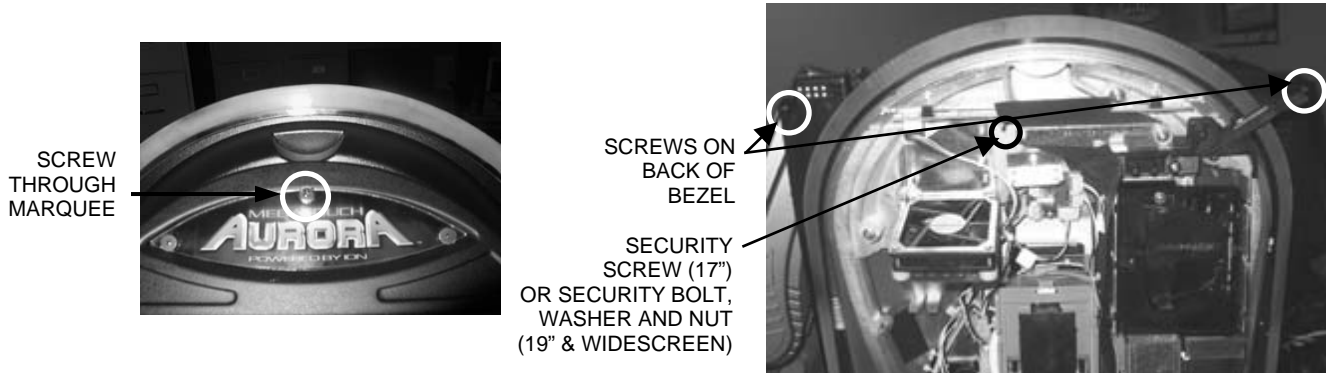

FIGURE 3 – SCREWS ON FRONT AND BACK OF BEZEL
5. Place something in front of the game to brace the bezel once the strain relief cord is undone, then remove the screw at the center of the marquee bezel and the 2 screws on the back of the bezel. For 17" games, remove the security screw inside the CPU section; for 19" and Widescreen games, remove the nut and washer securing the security bolt inside the CPU section. See Figure 3.